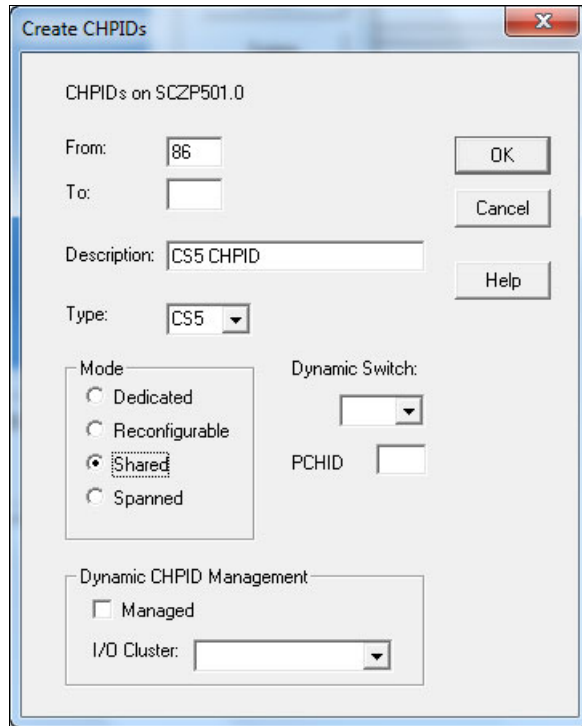

Figure 6-25 HCM - Create CHPIDs: defining a CS5 CHPID
5. Enter the following values in the Create CHPIDs window, and then click **OK** (Figure 6-25 on page 276).